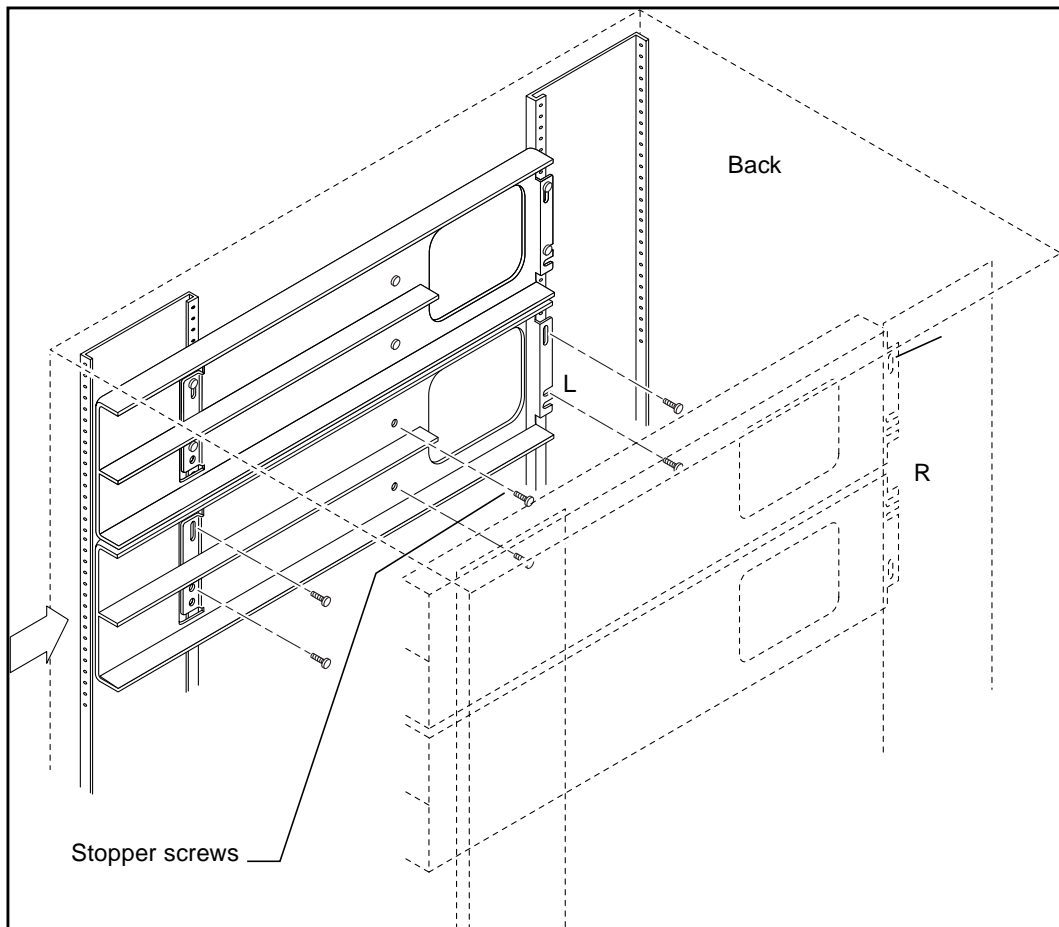

FIGURE 3-2 Installing Mounting Rails—Four-Switch Configuration
1. **Loosely start two stopper screws into each rail while they remain out of the cabinet (see FIGURE 3-2).**
2. **Working from the back of the cabinet, loosely start two screws into the cabinet rails. See FIGURE 3-2.**
2. **Loosely start two stopper screws into each rail (see FIGURE 3-2).**
3. **Working from the back of the cabinet, loosely start two screws for the mounting rails into the cabinet (see FIGURE 3-2).**